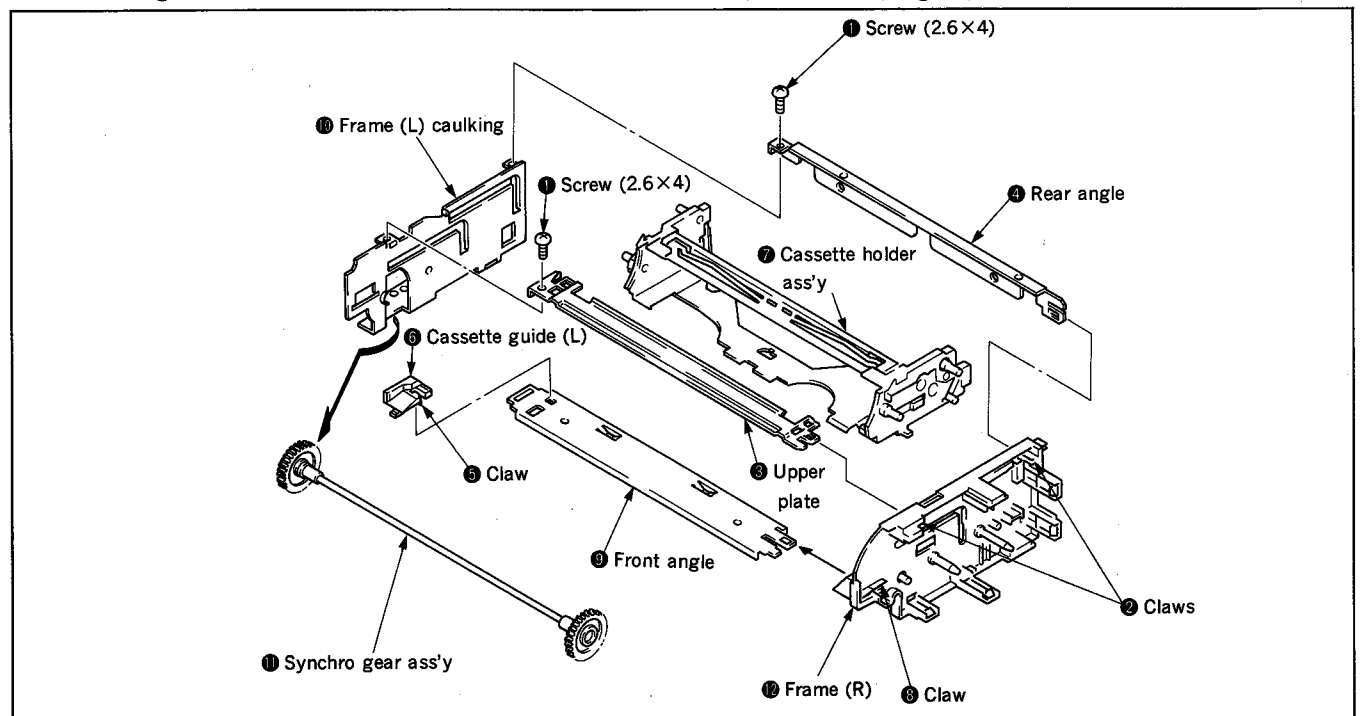

Fig. 3-5
3-1-3. Upper Plate, Rear Angle, Cassette Guide (L), Cassette Holder Ass'y, Frame (L) Caulking and Synchro Gear Ass'y (Fig. 3-5)
- 1) Place the cassette holder ass'y ❷ in the loading state as instructed in section 1-1.
- 2) Remove two screws ❶.
- 3) Undo two claws ❸ and pull out the upper plate ❹ and the rear angle ❺ from the frame (R) ❿.
- 4) Undo the claw ❻ and remove the cassette guide (L) ⓖ.
- 5) Remove the cassette holder ass'y ❷.
- 6) Undo the claw ❼ and pull out the front angle Ⓣ from the frame R ❿.
- When installing the frame (L) caulking ❿, check to make sure that two bosses are fit into the slot ❿ on the caulk. (Section 3-1-3, Fig 3-5)
- When installing the frame (R) ❿, check to make sure that two bosses are fit into the slot ❿ on the frame. (Section 3-1-3, Fig 3-5)